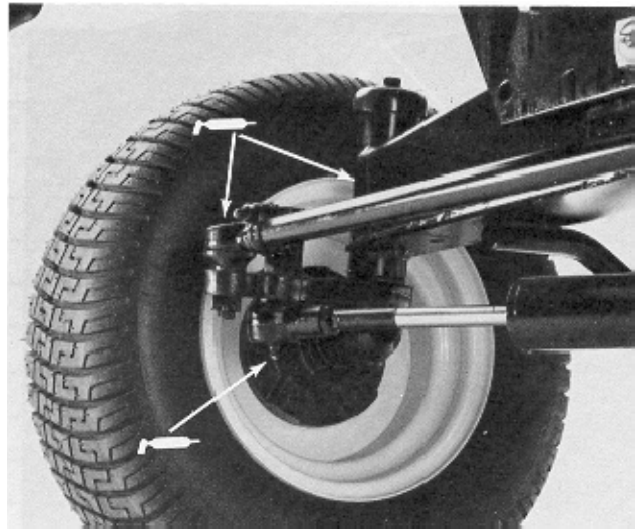

Figure 29
2 wheel drive machines only – cylinder end (2), center pivot (1), spindles (2), tie rod assembly (2) (Fig. 29).